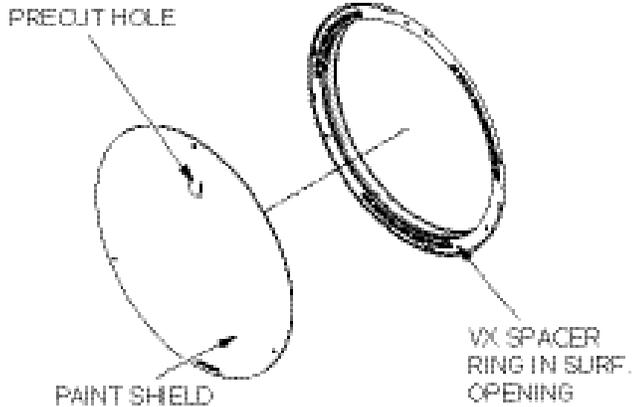

fig. 3
- After painting is complete, remove the paint shield from the mounting platform opening. The paint shield is a thin, plastic material that is secured around the perimeter with adhesive, so it should pull away from the opening easily. The paint shield includes a pre-cut hole to allow for easy removal using a finger or pointed object like a screwdriver. Poke through and pull the paint shield away from the surface. (fig. 3)